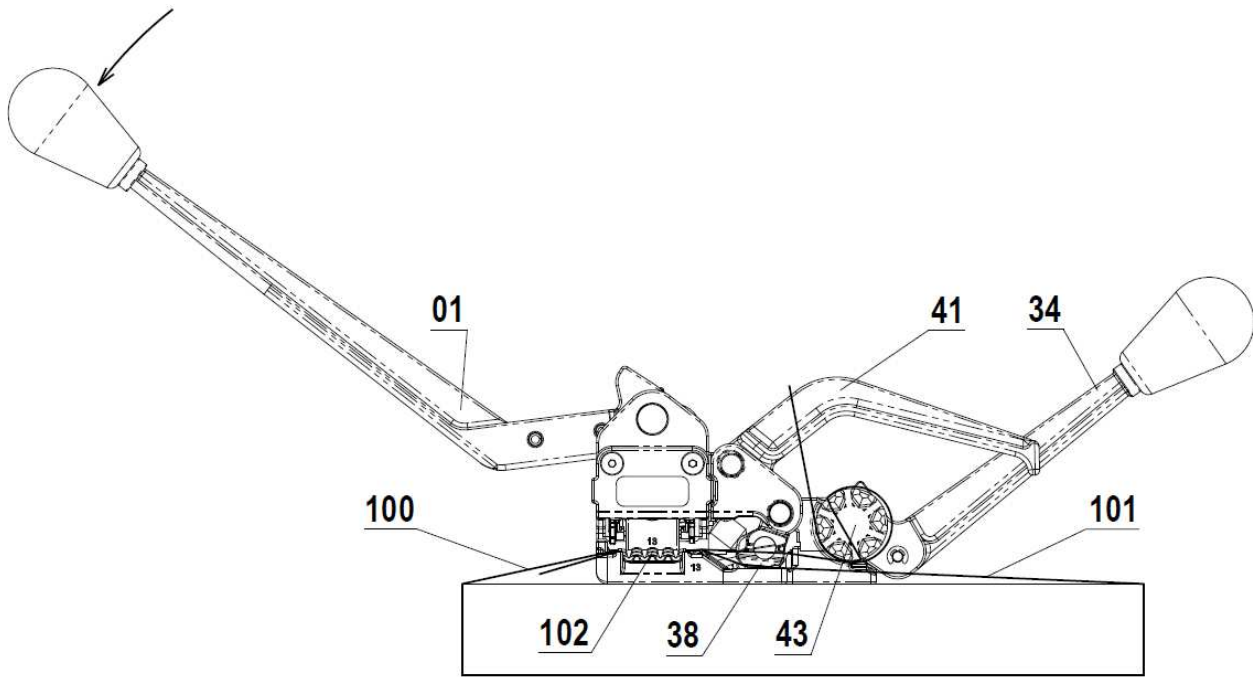

Fig. 6
5. Once satisfactory tension is achieved return **Tension Handle 34** back and push **Sealing Handle 01** forward as shown on Fig. 6 to close the seal.